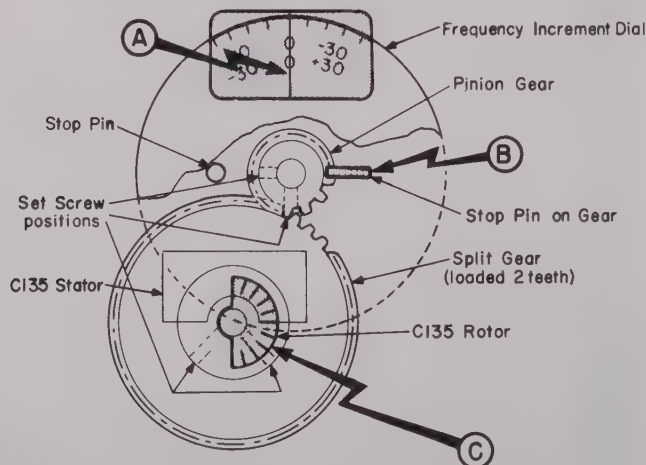

Figure 13. Gear Replacement
1. Install small gear on shaft and position gear stop pin shown in Fig. 13.
2. Rotate C135 rotor shaft until rotor is in position shown in Fig. 13. (Mid-capacitance)
4. Mesh the pinion gear teeth by sliding the large split gear in place on the rotor shaft. Setscrews should be in approximate position shown in Fig. 13.
6. Install Frequency Increment Dial in place with "O" in mid-position as shown in Fig. 13.